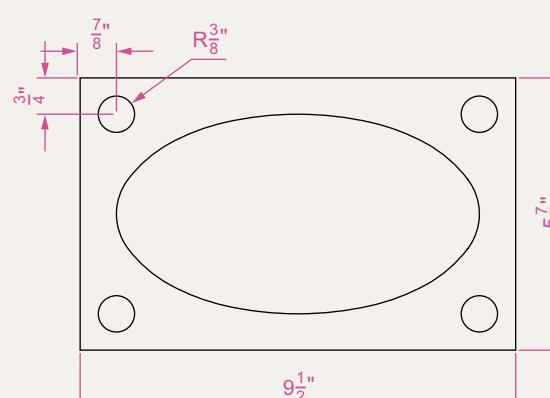

Fig. 3.47 Exercise 4
4. With the **Line**, **Circle** and **Ellipse** tools, construct Fig. 3.47.